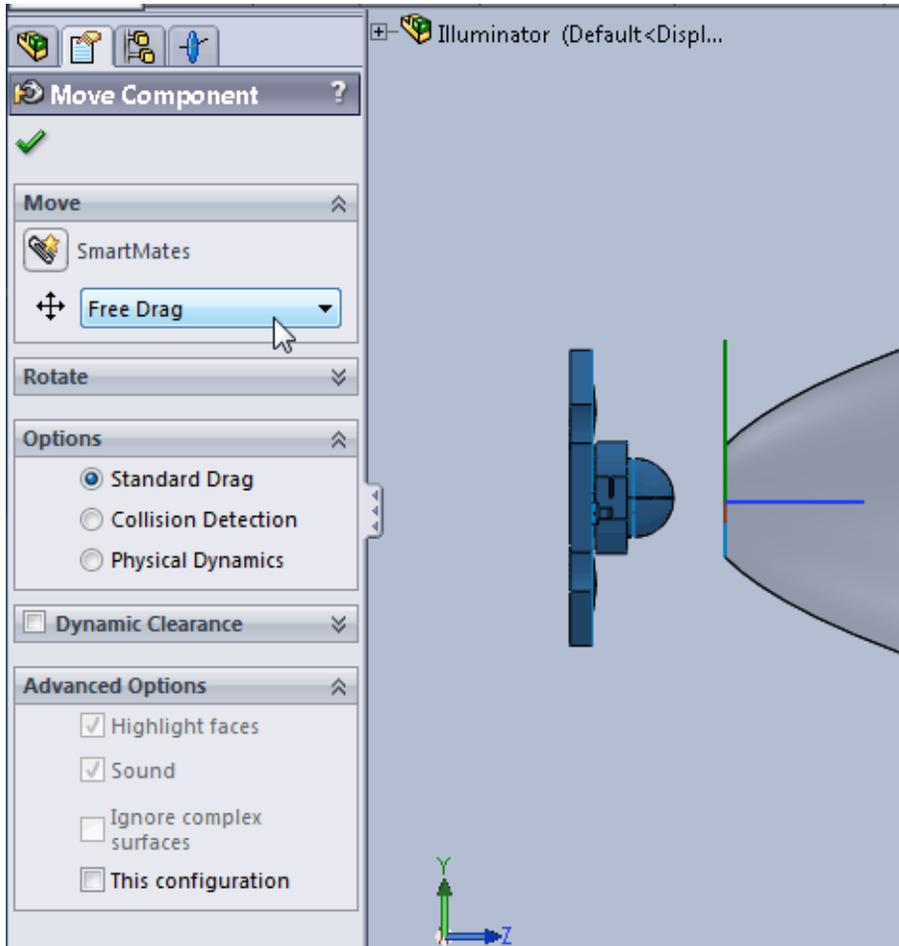

Figure 69 Move Component PropertyManager with Free Drag selected
- 3 Move the pointer to the LED in the graphics area, click and drag the pointer to the left so that the LED is well separated from the reflector, and release the pointer. See Figure 69.